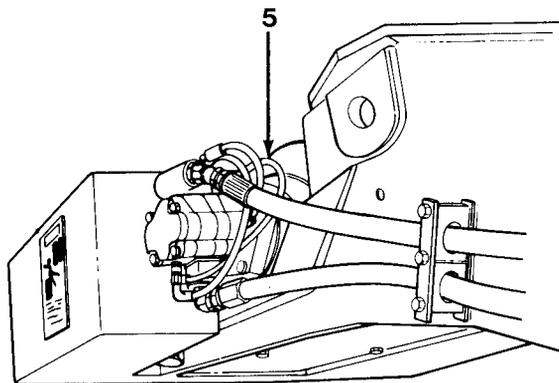

Figure 16-2
10. Remove cap from tee and connect brake release hose (5, Figure 16-2).